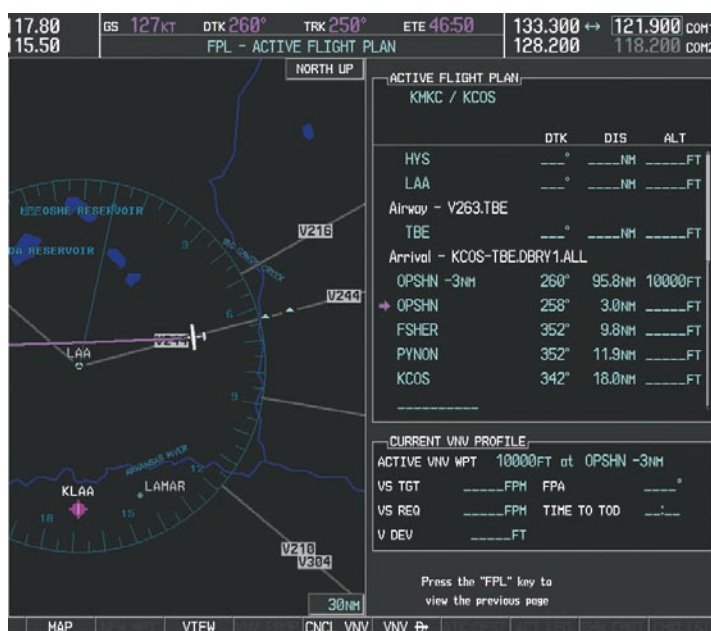

Figure 5-120 Direct-to Active
- h) Press the **ENT** Key twice to activate the direct-to. Note, in Figure 5-120, the magenta arrow indicating the direct-to OPSHN after the offset waypoint for OPSHN. The preceding offset waypoint indicates the offset distance and altitude that were previously entered. The remaining waypoints in the loaded arrival procedure have no database specified altitudes, therefore, dashes are displayed. Keep the CDI centered and maintain a track along the magenta line to OPSHN.